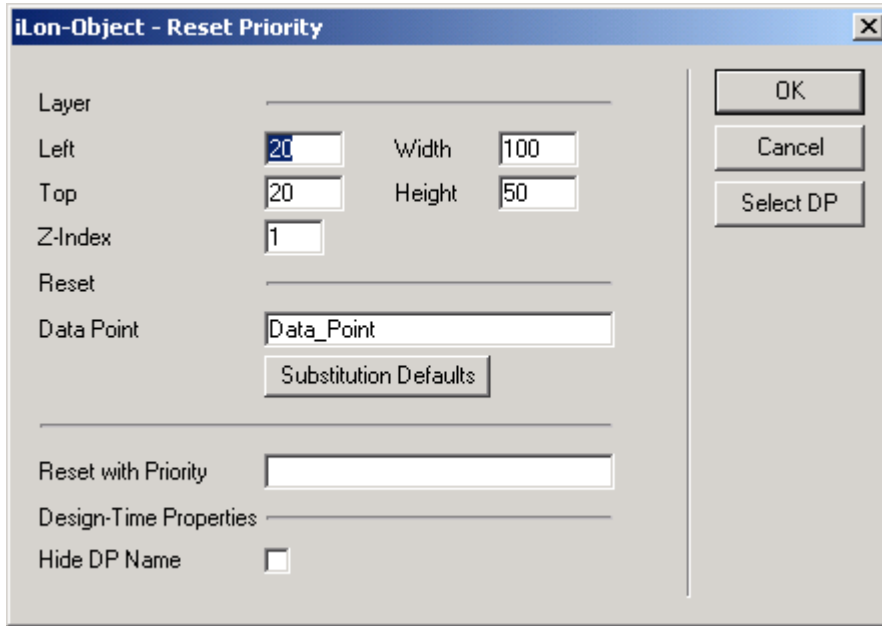

Figure 13.45 Reset Priority Dialog
1. Open a draft of a Web page, click the *iLON* button, and then select **Reset Priority**. An icon is inserted on the Web page where the check box will be displayed, and the dialog shown in Figure 13.45 opens.